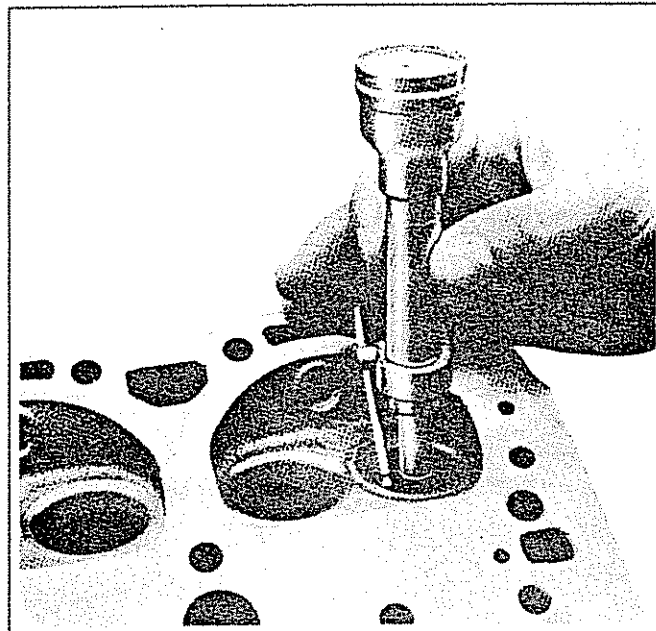

Fig. 6A2-27--Measuring Valve Seat Concentricity
6. Measure valve seat concentricity (Fig. 6A2-27).